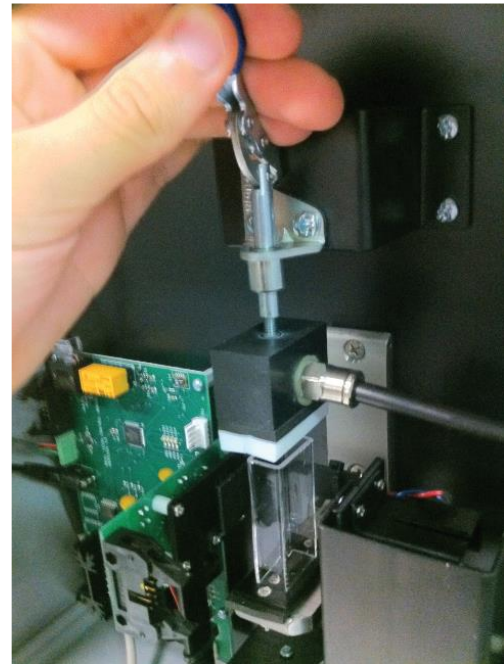

Figure 14.10: Replace flow cell and lower clamp
12. Replace the flow cell being careful the flow cell is properly aligned before lowering the toggle clamp, as shown in Figure 14.10.